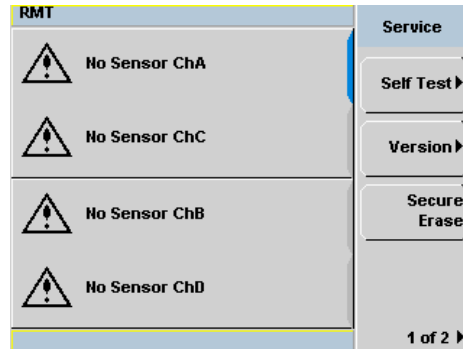

Figure 2-57 Secure Erase
- 1 Press **System**, **1 of 2** and select **Service**. In the **Service** menu, select **Secure Erase** (see Figure 2-57).